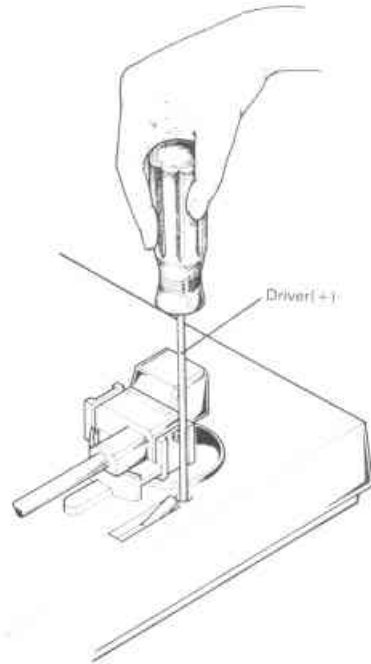

Fig. 4
1. Tonearm Adjustment (Fig. 4)